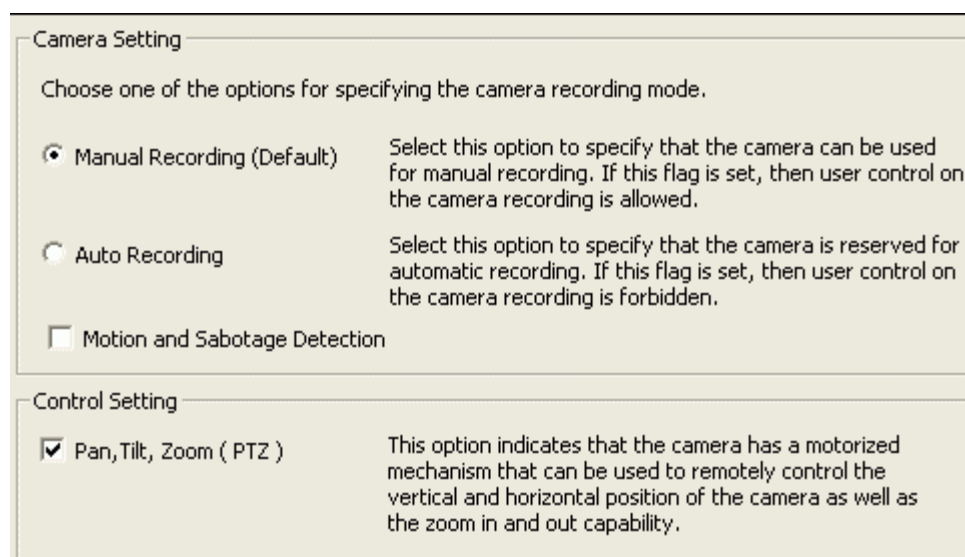

Fig 7 Camera options
3. Set the camera options that are illustrated in Fig 7